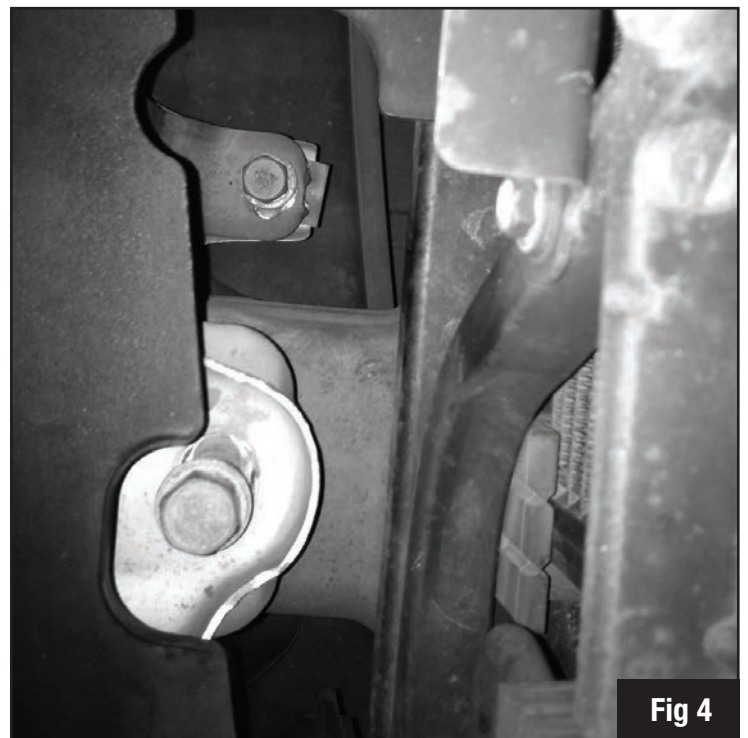

Fig 4
7) Remove (4) bolts holding bumper on to frame. Bolts are located behind bumper directly below where the grill was *Fig 4*.